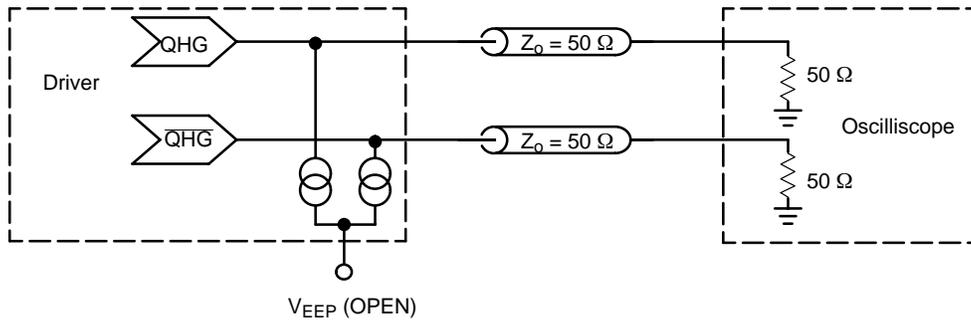
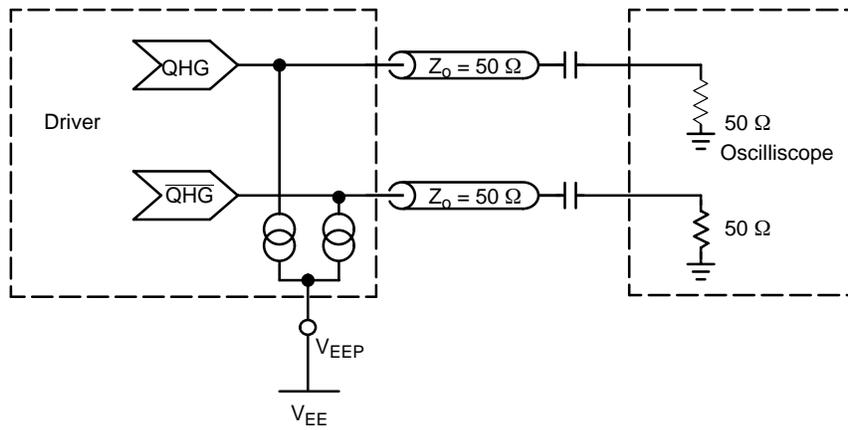

Figure 11. QHG/ $\overline{\text{QHG}}$  Device Evaluation Set-up;  $V_{EEP} = \text{OPEN}$
Figure 12. QHG/ $\overline{\text{QHG}}$  Device Evaluation Set-up;  $V_{EEP} = V_{EE}$
- QH $\bar{G}$ /QH $\bar{G}$  outputs loaded with 50  $\Omega$  to  $V_{CC} - 2.0\text{ V}$  ( $V_{EEP} = \text{OPEN}$ ) Figure 11 or with optional current source ( $V_{EEP} = V_{EE}$ ) Figure 12. Q/Q outputs loaded with 8 mA current source (CS\_SEL =  $V_{EE}$ ).
13. QHG/QHG outputs loaded with  $50\ \Omega$  to  $V_{CC} - 2.0\text{ V}$  ( $V_{EEP} = \text{OPEN}$ ) Figure 11 or with optional current source ( $V_{EEP} = V_{EE}$ ) Figure 12.
17. QHG/QHG outputs loaded with  $50\ \Omega$  to  $V_{CC} - 2.0\text{ V}$  ( $V_{EEP} = \text{OPEN}$ ) Figure 11 or with optional current source ( $V_{EEP} = V_{EE}$ ) Figure 12.
24. Assumes 50% Input Duty Cycle, see Figures 11 or 12.